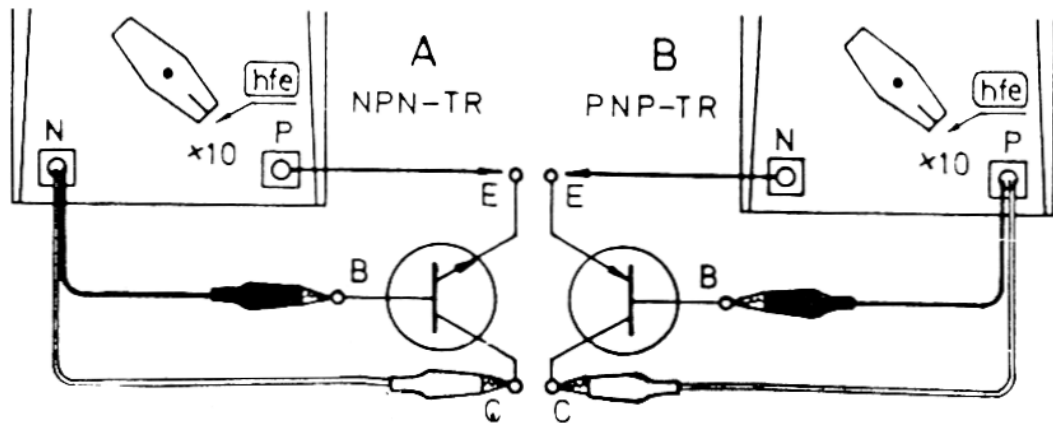

Fig. 12
- (a) No reading at all for the connection ②;
- (b) No difference of reading between ① and ②,
- (c) For the ①, reading goes beyond the h_{FE} scale and near to full scale.
3-5. Under the condition of Fig. 12-②, reading is noted on the blue h_{FE} scale. The value read is $\frac{I_c}{I_b}$ which is the DC amplification degree of the TR tested.